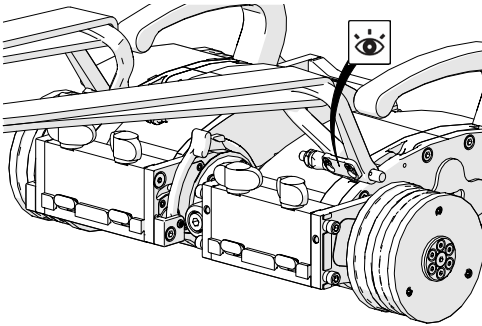

Fig. 16 - Proper shackle setup
1. The shackle plate (Fig. 16) in conjunction with the tether attachment point provides the necessary clearance for scanning equipment.